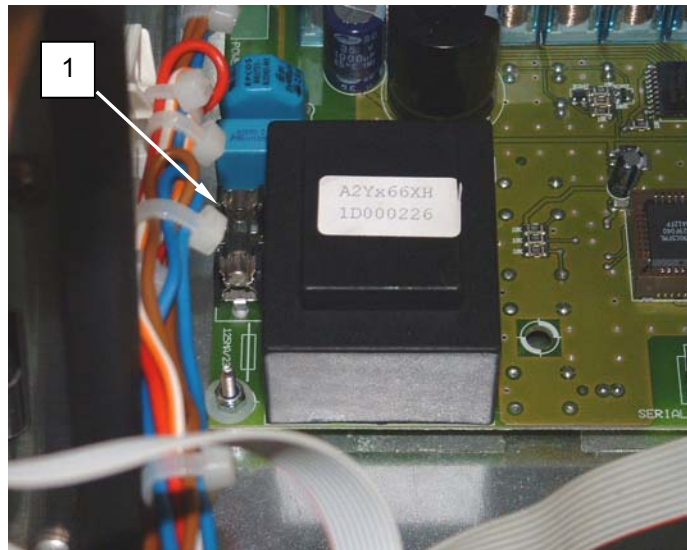

Figure 6. Replace the Microprocessor Board Fuse.
3. Remove fuse (**Figure 6, Item 1**).
4. Install replacement fuse (**Figure 6, Item 1**).